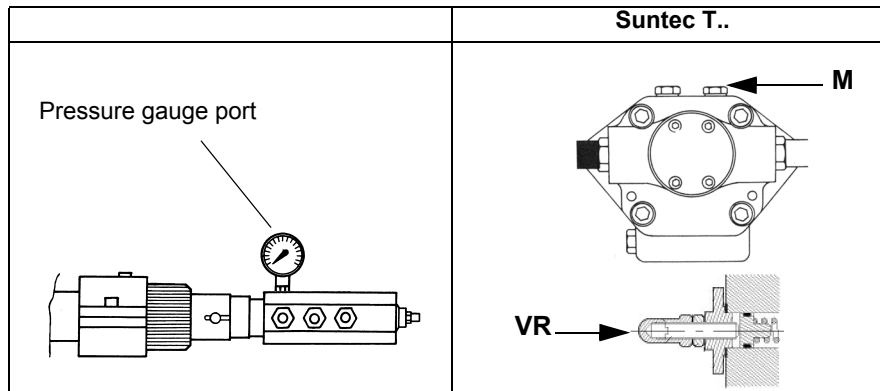

Fig. 4
- 3 bleed the air from the **M** pressure gauge port (Fig. 4) by loosening the cap without removing it, then release the contactor.
- 4 Only if necessary, adjust the supply pressure as follows (see related paragraph); insert a pressure gauge into the port shown on Fig. 4 and act on the pump adjusting screw **VR** (see Fig. 4) as to get the nozzle pressure at 25bar (according to the nozzle model provided- see page 28).